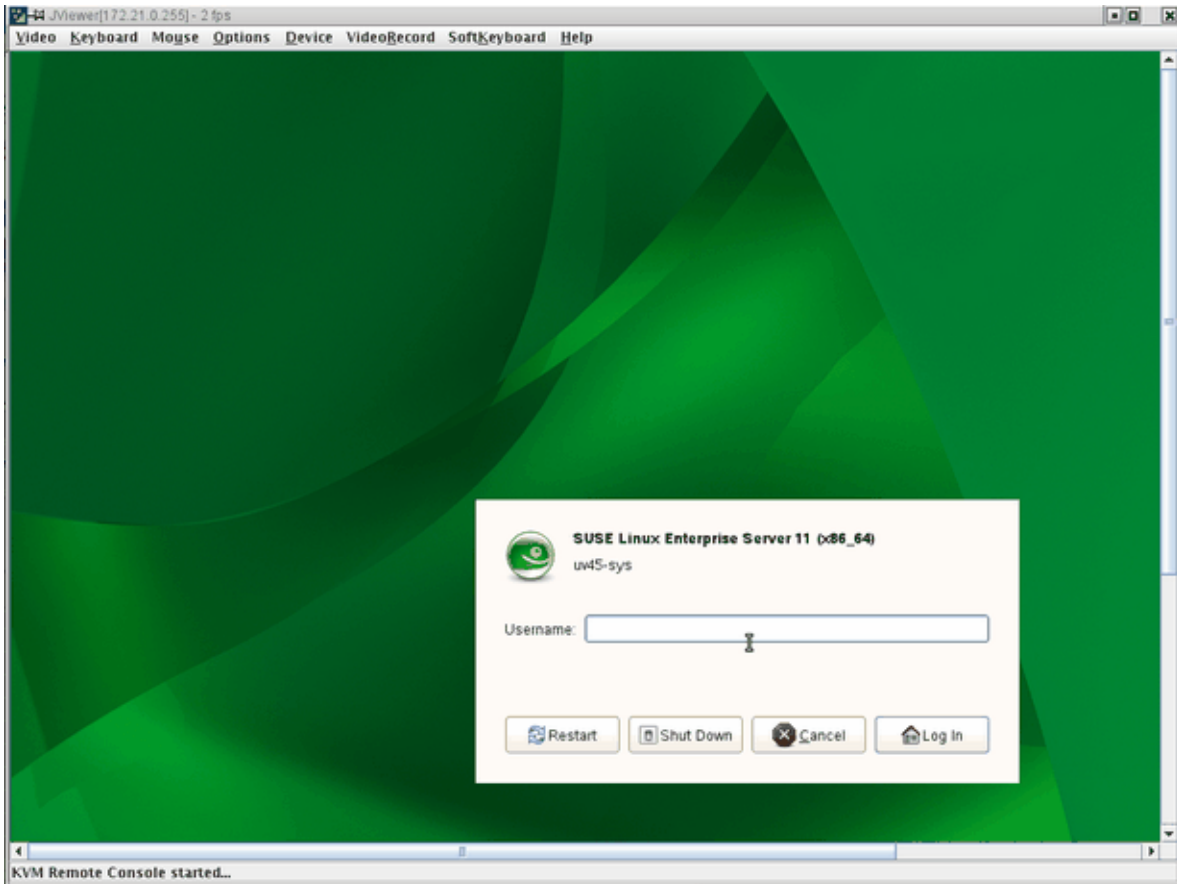

Figure 3-11 SUSE Linux Enterprise Server 11 (x86_64) Login Screen
14. The **SUSE Linux Enterprise Server 11 (x86_64)** login screen appears, as shown in Figure 3-11 on page 46. Log in as root user